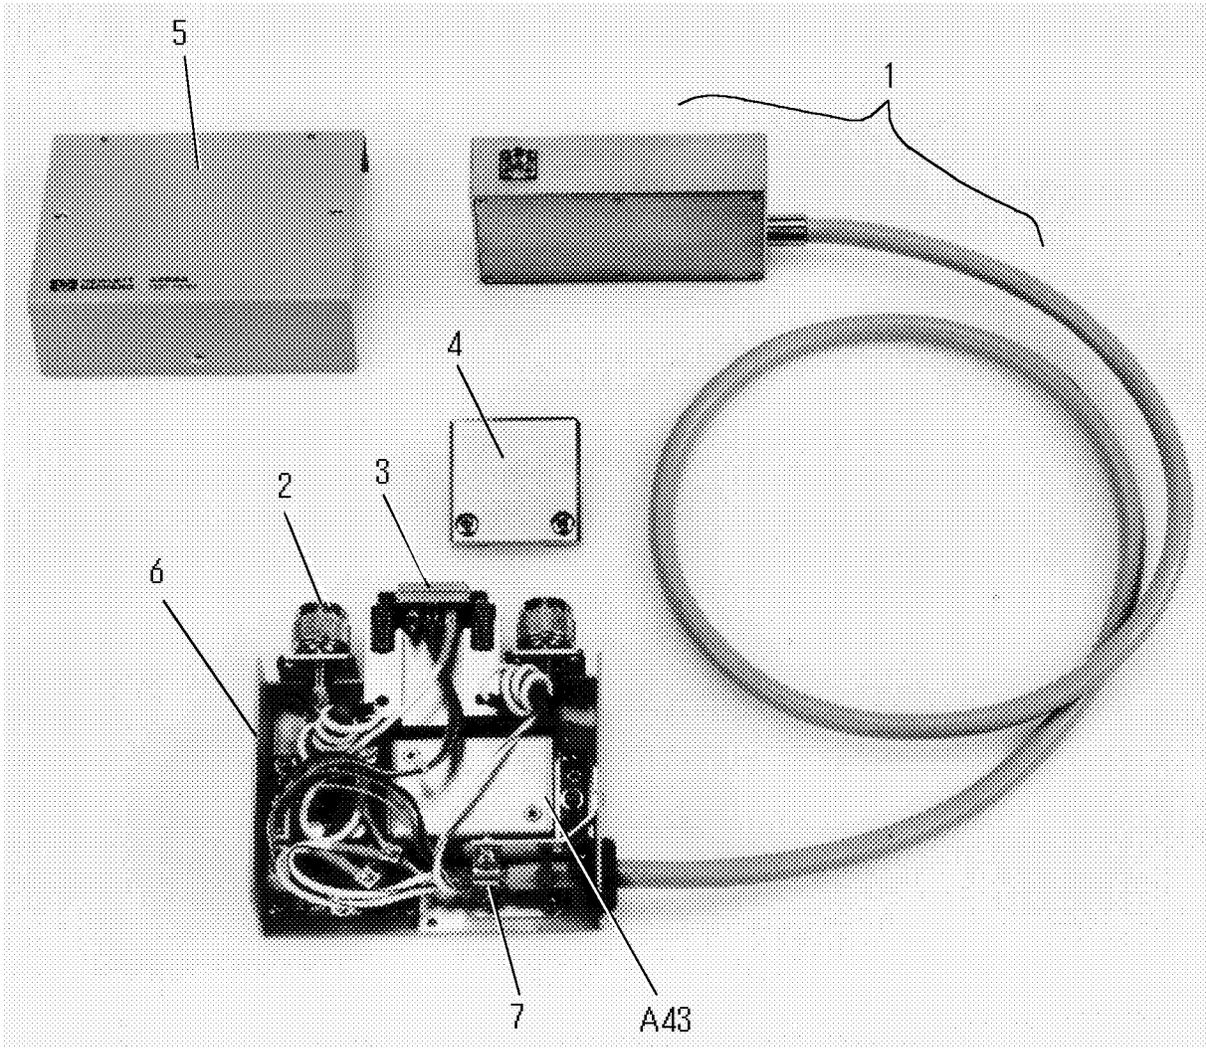

Figure 12-14. Test Head Parts
“Cable Assy” designated ① in Figure 12-14 includes the APC3.5 measurement terminal block (end of the test head) and the 1m/3m cable (coaxial cables connected to S, R, A43J6 and A43J7, and the wire connected to A43J5).
“Connector Assy” designated ③ in Figure 12-14 includes the coaxial cable connected to A43J1 and the wire connected to A43J3.